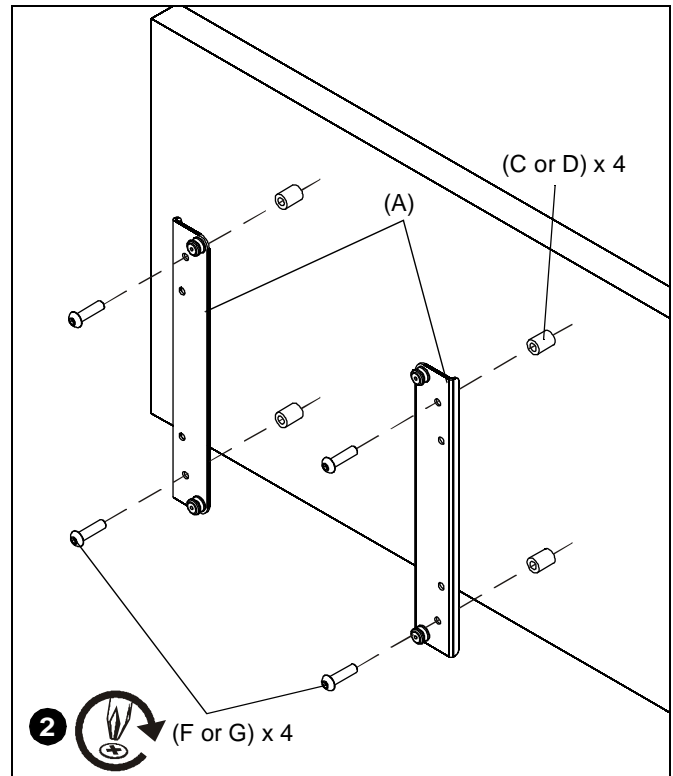

Figure 2
2. Place nylon spacers (C or D) over mounting holes of display and attach brackets to back of display using the M8 x 30mm button head cap screws (F) with spacer (C), **OR** M8 x 40mm button head cap screws with spacer (D). (See Figure 2).